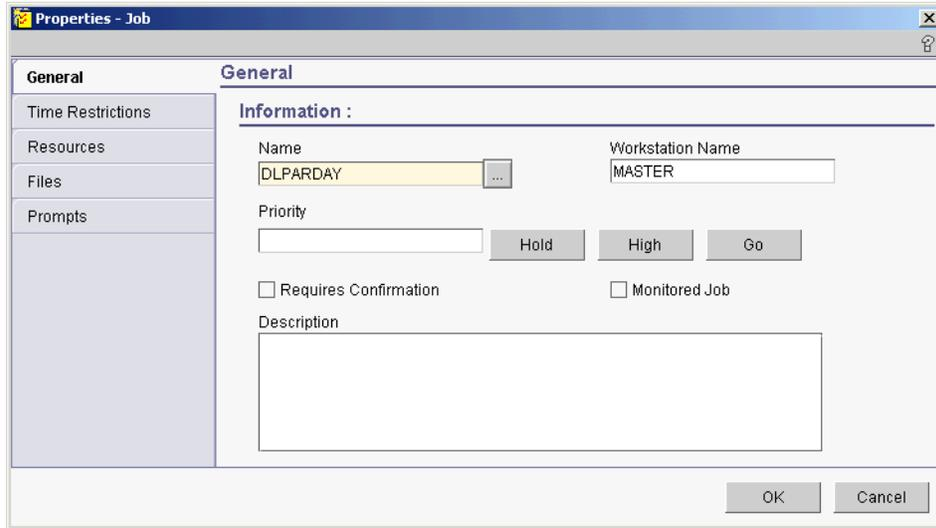

Figure D-10 Properties - Job: General
10. Click **OK**. The Properties - Job window is updated with the selected job, as shown in Figure D-10 on page 478.